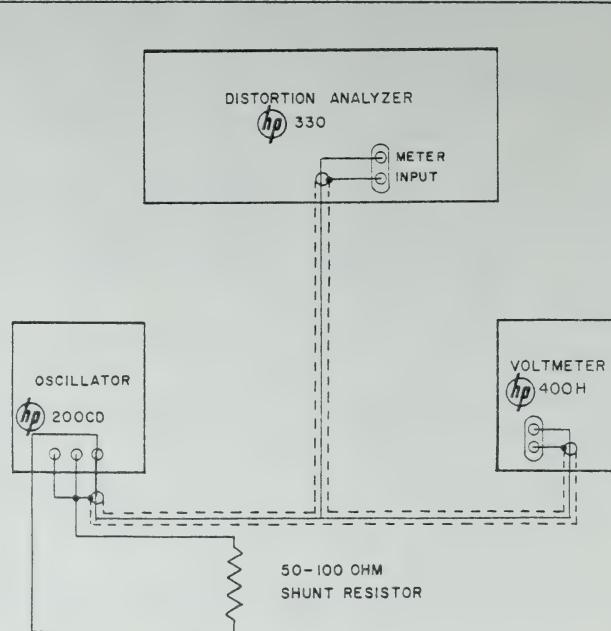

Figure 4-4. Test Bench Equipment Arrangement with Shunt Resistor
e. Disconnect transformer 200CD-9. Connect equipment as shown in figure 4-4. Set 330B voltmeter and 400H to .03-volt range. Adjust output frequency of 200CD to 1000 cps and adjust its output amplitude to obtain reading of 0.9 on 0-1 scale of 330B meter. Record reading obtained on 400H (reference level).
a. Connect equipment as shown in figure 4-4. Set 330C/D meter and 400H to .03-volt range. Adjust output frequency of 200CD to 1000 cps and adjust its output amplitude to produce a reading of 0.9 on 0-1 scale of 330C/D meter. Record reading obtained on 400H (this meter reading is referred to as "reference level" in the following procedure).